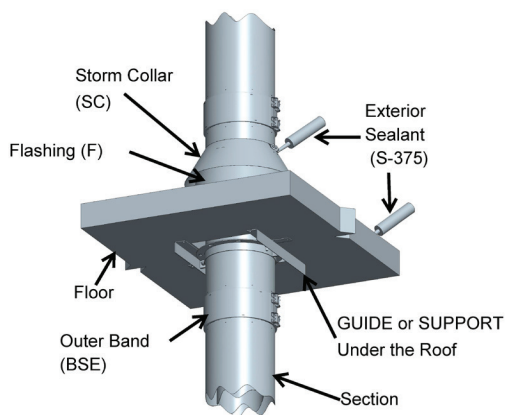

Figure 64b - Installation of Flashing- View under the Roof
3. For lateral stability, supports or guides must be used. The Heavy Duty Floor Guide (WSHD) must be installed either on top or under the roof (See **Figure 64b** for guide under the roof). Any supports (AP, APL or WSHD) or a Full Angle Ring must be installed below.